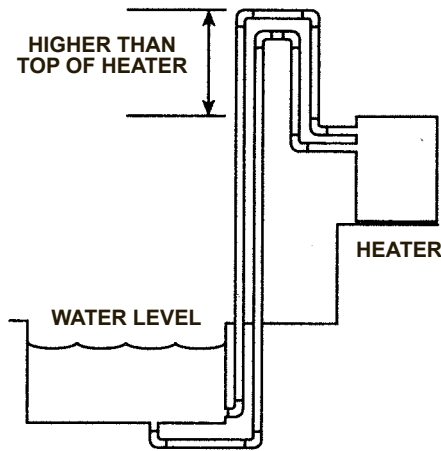

Figure 27: Heater Installation Above Pool
If heater is installed more than three (3) feet above surface of pool/spa water, install a loop as shown on Figure 27 to prevent drainage of water in heater during filter change.